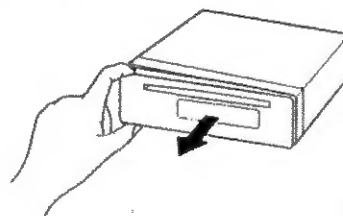

Fig. 3
- 2. To remove the front panel, pull its left-hand side toward you. (Fig.3)